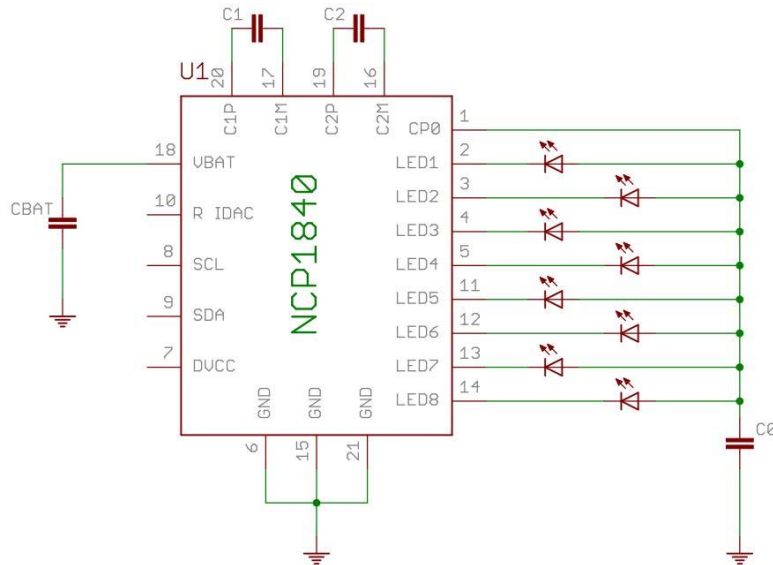

Figure 16. Schematic Showing Charge Pump and Decoupling Capacitors
- Use good-quality X5R or X7R ceramic capacitors for C_0 , C_1 , C_2 , and C_{BAT} – see Figure 16.